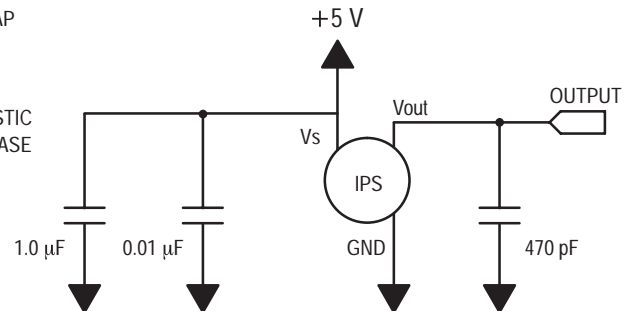
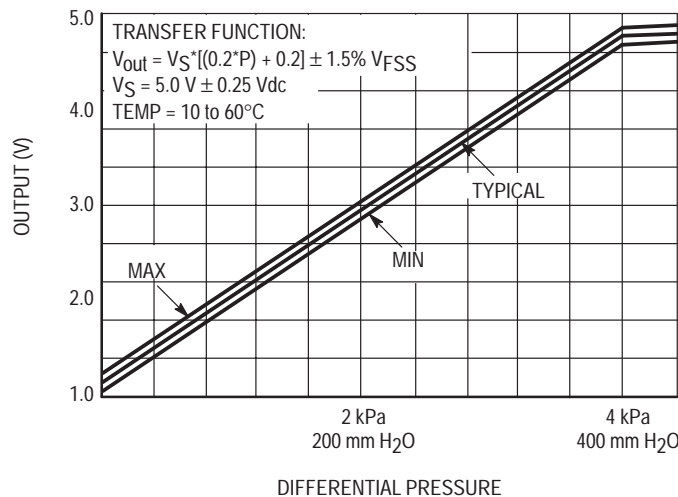

Figure 3. Recommended power supply decoupling and output filtering. For additional output filtering, please refer to Application Note AN1646.
Figure 4. Output versus Pressure Differential
**OPERATING CHARACTERISTICS** ( $V_S = 5.0$  Vdc,  $T_A = 25^\circ\text{C}$  unless otherwise noted,  $P1 > P2$ . Decoupling circuit shown in Figure 3 required to meet electrical specifications)
Figure 3 shows the recommended decoupling circuit for interfacing the output of the MPXV5004G to the A/D input of the microprocessor or microcontroller. Proper decoupling of the power supply is recommended.
Figure 4 shows the sensor output signal relative to pressure input. Typical, minimum and maximum output curves are shown for operation over a temperature range of 10°C to 60°C using the decoupling circuit shown in Figure 3. The output will saturate outside of the specified pressure range.